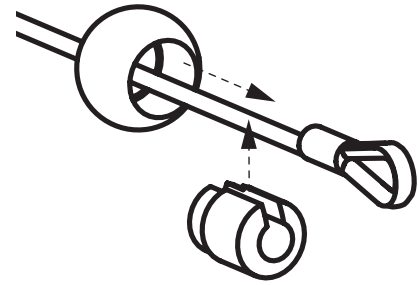

Figure 18b - Detail
- (2) Cable End Stop Balls with Core (see Detail)
**18-1** Locate the Right Rod Cable that you ran through the Lat Pulley Housing. Thread the Cable through the (3) Floating Pulley, as shown.
**18-2** Continue to guide the Cable through the (4) Pulley on the Rear Lat Cross Bar, and then through the (5) Pulley on the Front Lat Cross Bar as shown.
**18-3** Insert the Cable End through the Cable End Stop Ball, and attach the Cable Core to keep the Cable from slipping back through the Pulleys. See **Figure 18b**.